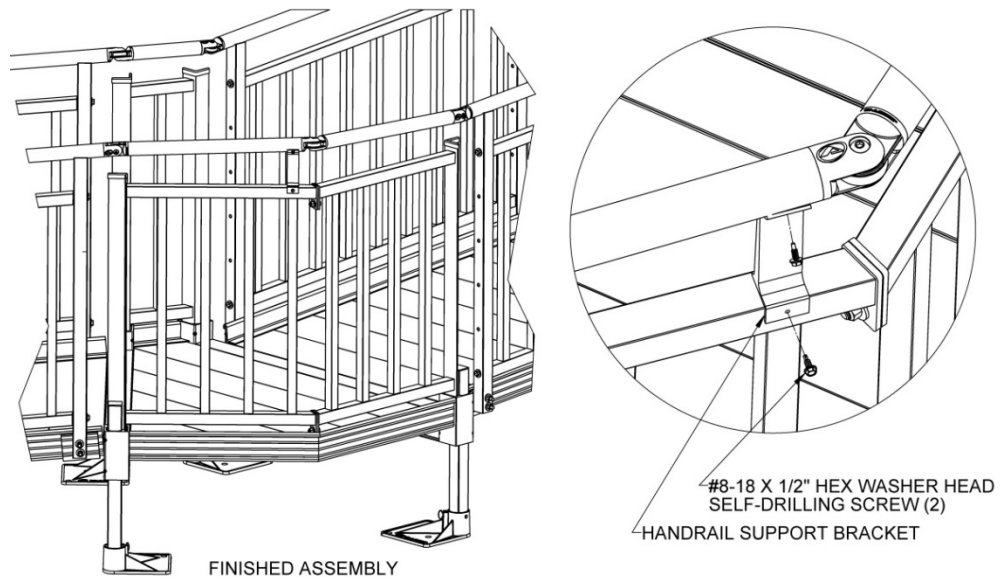

FIG. 4.26
- 4.9.22. Secure the Handrail Support Bracket to both the 1-1/2" diameter handrail tube and the top rail of the Vertical Picket panel using two #8-18 x 1/2" hex washer head self-drilling screws. Orient the attachment leg of the Handrail Support Bracket away from the platform as shown (FIG. 4.26).